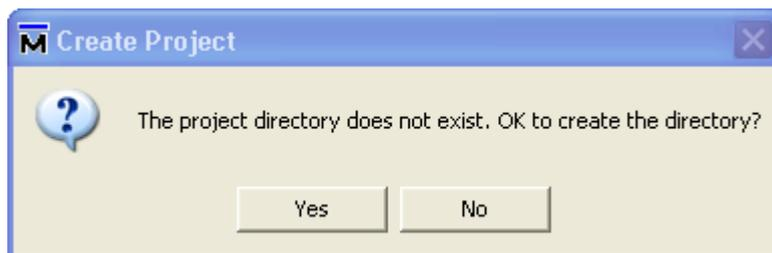

Figure 31.Confirm the establishment of a new directory
3. Then the dialog window shown as Figure 31 will appear, which indicates that the project directory does not exist. Click on the **OK** button to create the directory for a new project.